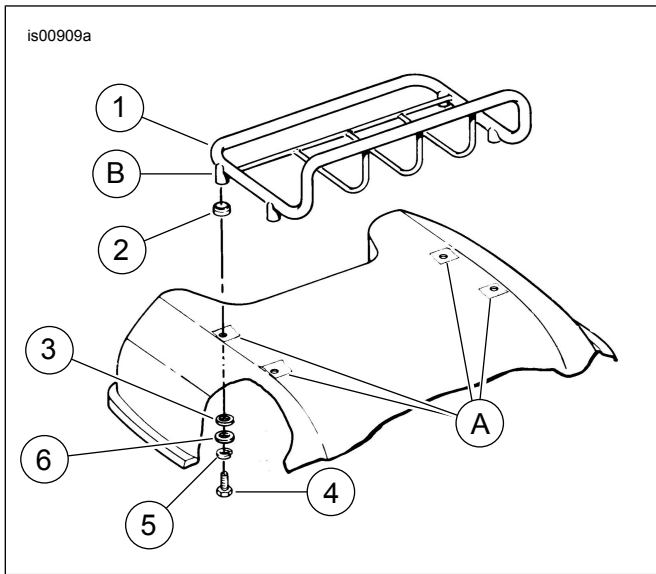

Figure 1. Service Parts, Premium Tour-Pak Luggage Rack Kit
See Figure 1 and Table 1.
2. See Figure 1. Slip the mounting pads (2) onto each of the mounting bosses (B) of the luggage rack (1).